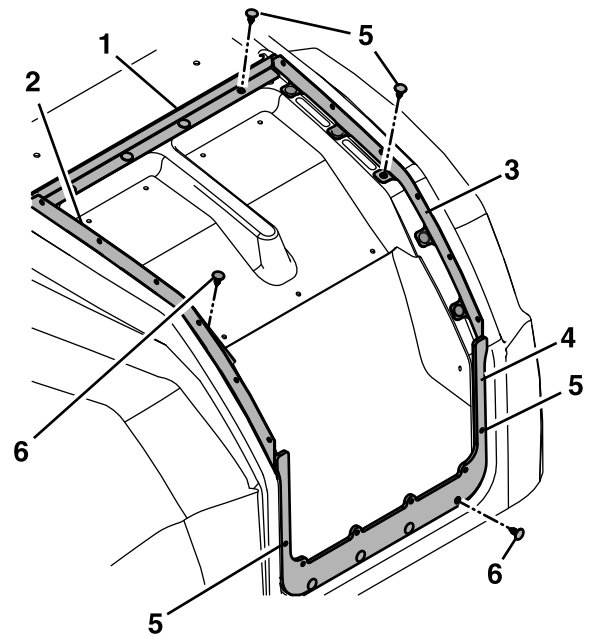

Figure 4
3. An older style hood requires the installation of the left, right, and front mounting brackets and the back plate. Use the plastic plugs as shown in Figure 4 to assemble the brackets to the hood. Using a 1/4 inch drill bit, drill two holes through the existing hood as shown in Figure 4; install the plastic plugs.